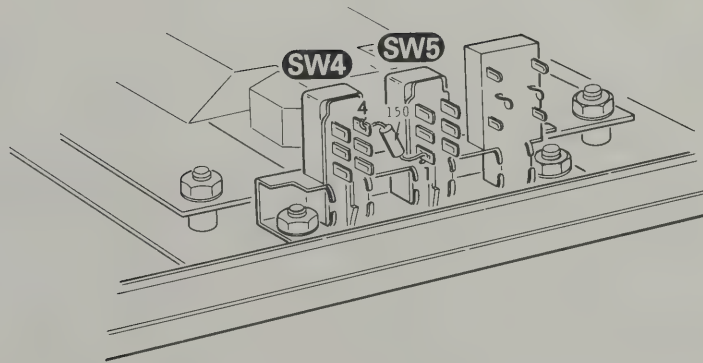

Figure 2-2
22. Refer to Figure 2-2 (fold-out from Page 58) and temporarily solder the 150 ohm resistor between switch SW5 lug 1 (green wire) and switch SW4 lug 4 (orange wire). Make sure the resistor leads do not touch any other switch lugs or the chassis.